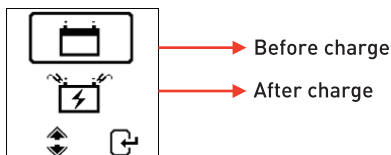

Fig.25
15. Sometimes the analyser will ask whether the battery has been charged before or after testing. (Fig.25) Selecting "Before charge" or "After charge" will determine its final test results.